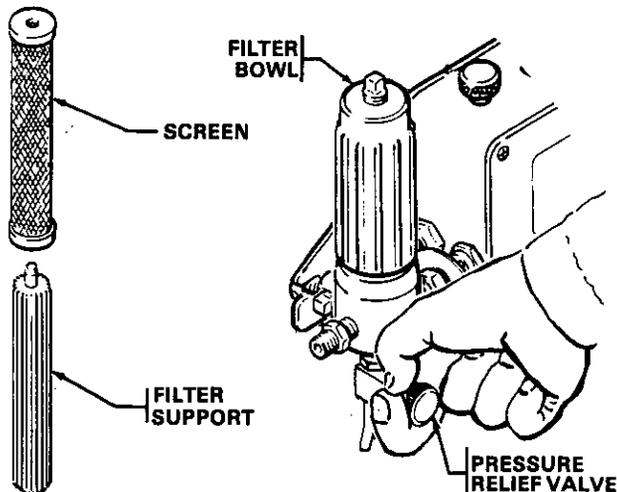

Fig 7
2. Remove the filter bowl and screen; see manual 307-273 supplied. Clean the screen separately and install the bowl without the screen to flush it. See Fig 7.